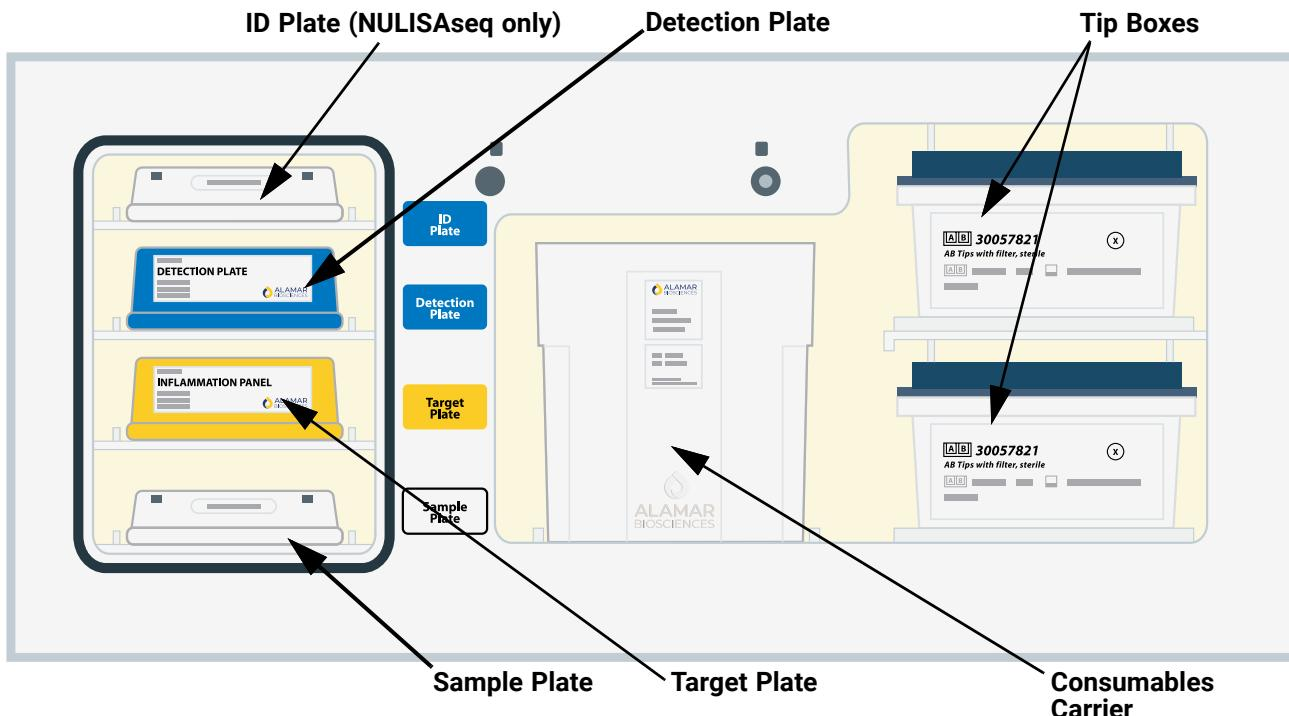
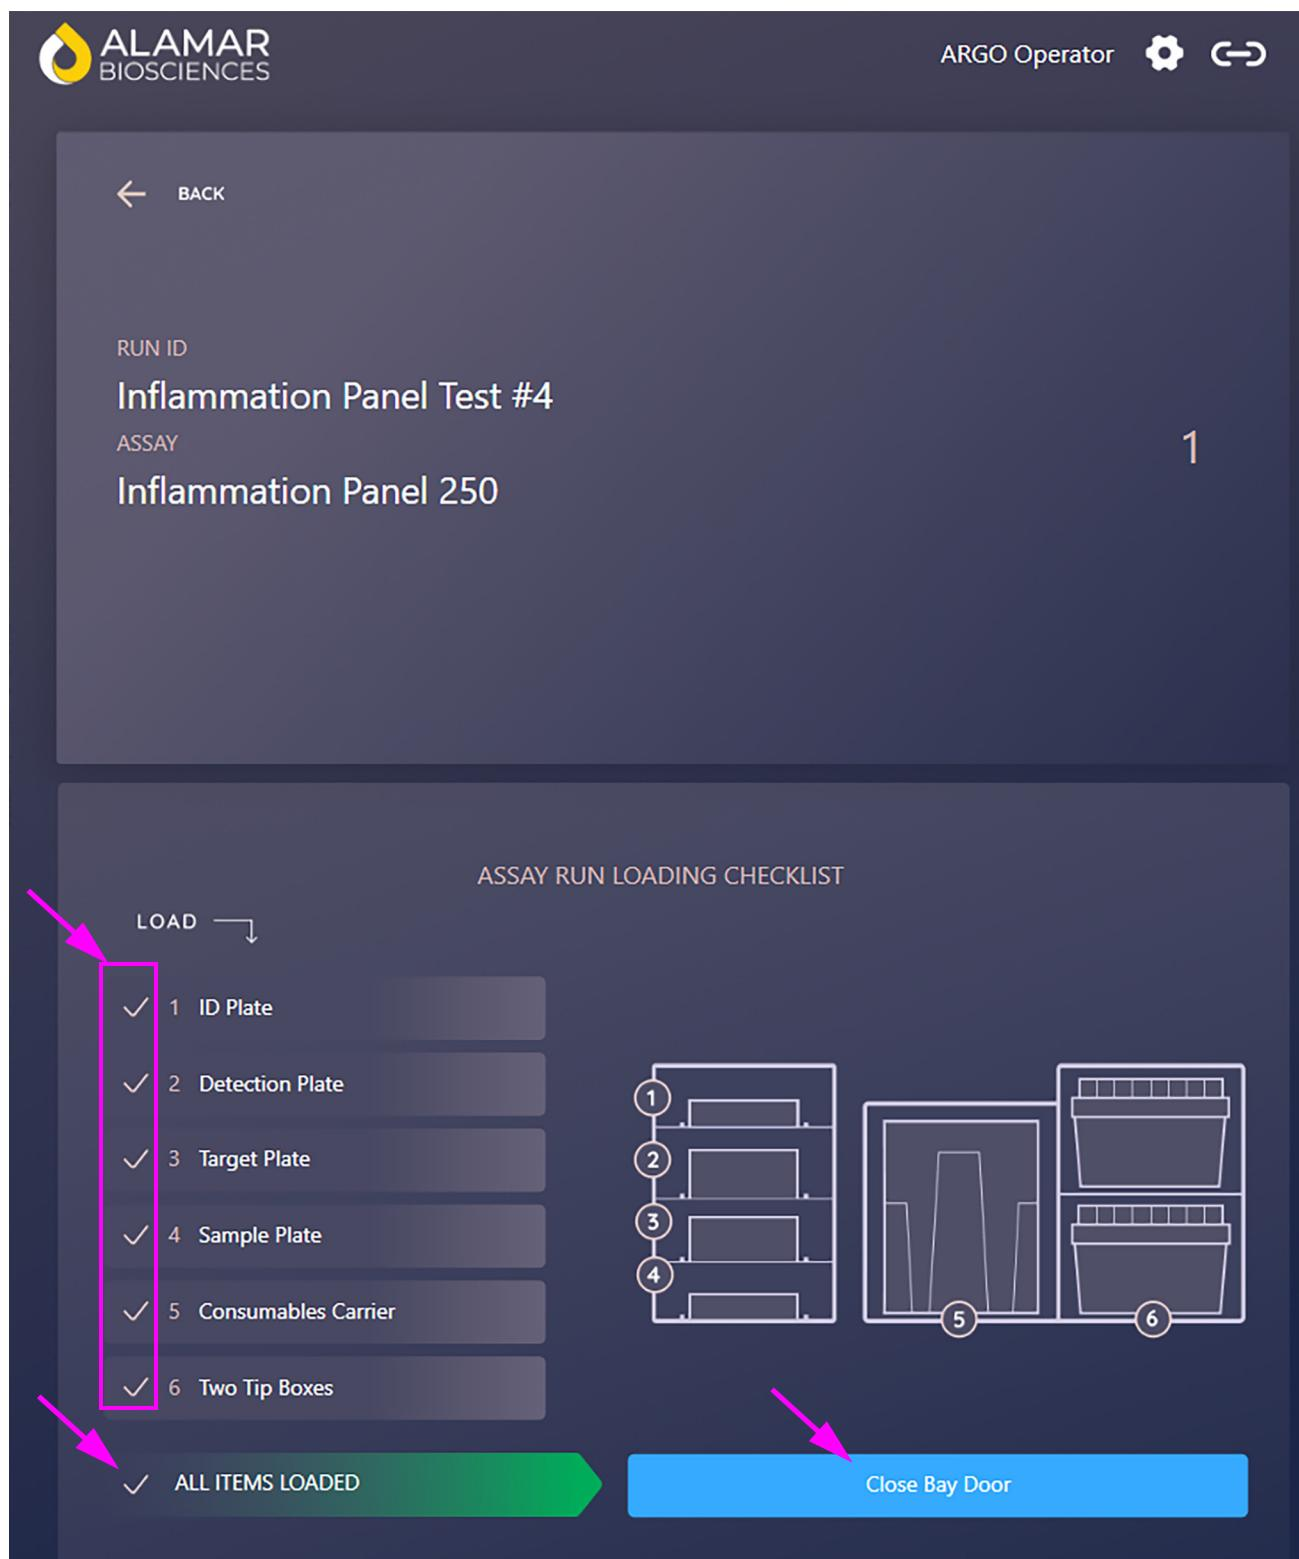

Figure 4-15. Assay Kit Loading Overview
Figure 4-17. ASSAY RUN LOADING CHECKLIST (NULISAsq Assay)
2. Select the **Load** button on the ARGO HT touchscreen (see Figure 4-14) for the first bay to be loaded. The bay door opens and the ASSAY RUN LOADING CHECKLIST is displayed indicating that the assay and samples should be loaded into the bay. See Figure 4-17.
5. After all items have been loaded, select the blue **Close Bay Door** button at the bottom of the ASSAY RUN LOADING CHECKLIST (see Figure 4-17). The sample bay door will close.
An overview of the loading is shown in Figure 4-15.
When you are ready to process a run, load the assay kit, sample plate, consumables cartridge and tip boxes into the ARGO HT instrument using the ASSAY RUN LOADING CHECKLIST screen as a guide. See Figure 4-15 and Figure 4-17.
After all of the reagent kit(s) have been loaded, select the blue **Close Bay Door** button at the bottom of the ASSAY RUN LOADING CHECKLIST (see Figure 4-17). The sample bay door closes.